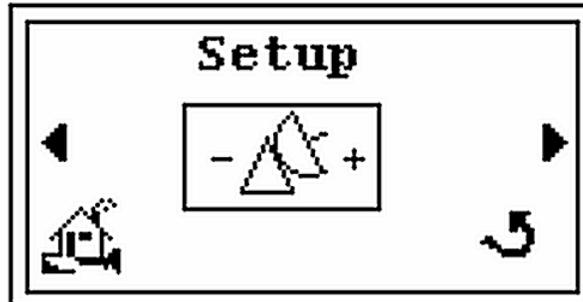

Figure 2-13 Setup Screen
3. Press the  and the *Setup* screen appears (Figure 2-13).